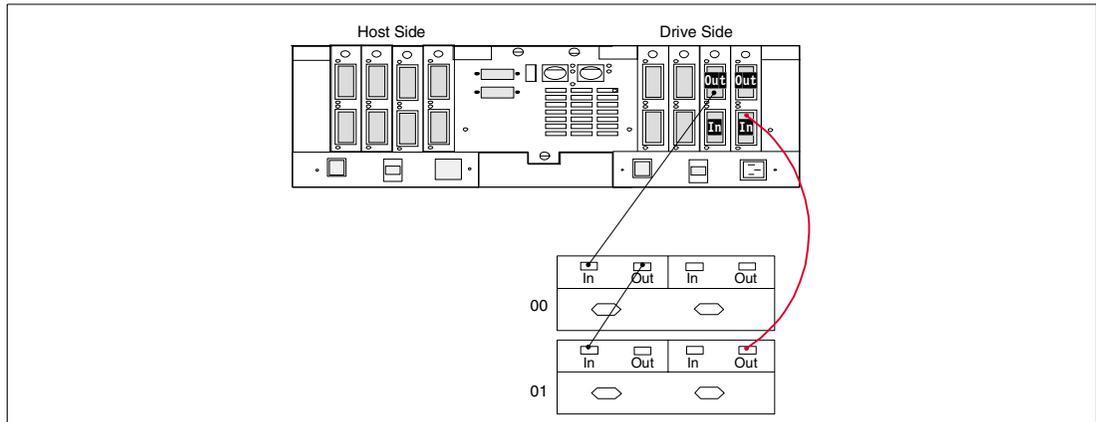

Figure 8-3 Connecting the new EXP500, step 2
- Disconnect the fiber cable from the drive-side mini-hub pair IN port on the FAST500, at the OUT port on the right-hand ESM board of the existing EXP500. Do not disconnect any other cables from the EXP500. Reattach this cable to the OUT port on the right-hand ESM board of the new EXP500 (see Figure 8-3):